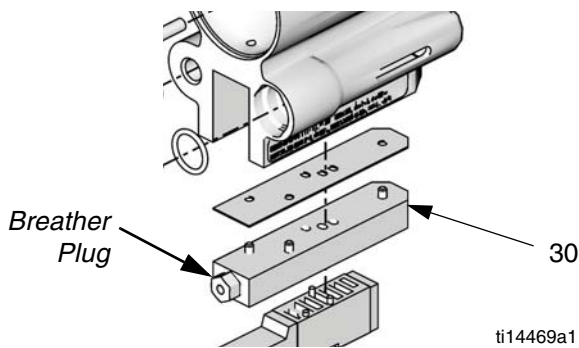

FIG. 18: Breather Plug
Remove and clean breather plug with compatible solvent. See materials of construction info in **Technical Data**, page 55. The breather plug is part of the solenoid manifold assembly (30). See FIG. 18. Use N-Methylpyrrolidone (NMP), Dynasolve CU-6, Dzolv, or an equivalent to soften cured material. Applying a light coat of lubricant will make future cleaning easier. Torque breather plug to 30-40 in-lb (3.89-4.82 N•m).